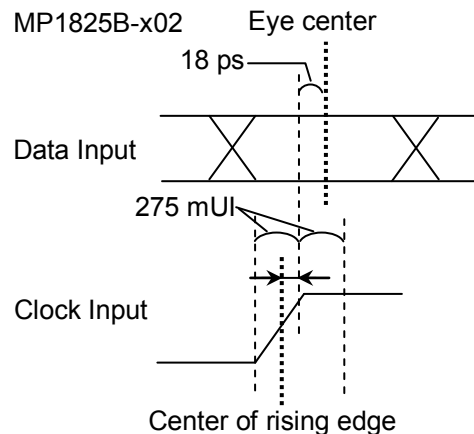

Figure 3.3-2 Phase Difference Between Data Input and Clock Input (MP1825B-x02)
Adjust the phase difference between data and clock to be input to Data Input and Clock Input, as shown in Figure 3.3-2. In case of MP1825B-x04, the phase difference can be auto-adjusted by using the Data/Clock Adjustment function.
- Adjust the phase difference between data and clock to be input to Data Input and Clock Input, as shown in Figure 3.3-2. In case of MP1825B-x04, the phase difference can be auto-adjusted by using the Data/Clock Adjustment function.
- Adjust the phase difference between data and clock to be input to Data Input and Clock Input, as shown in Figure 3.3-2.